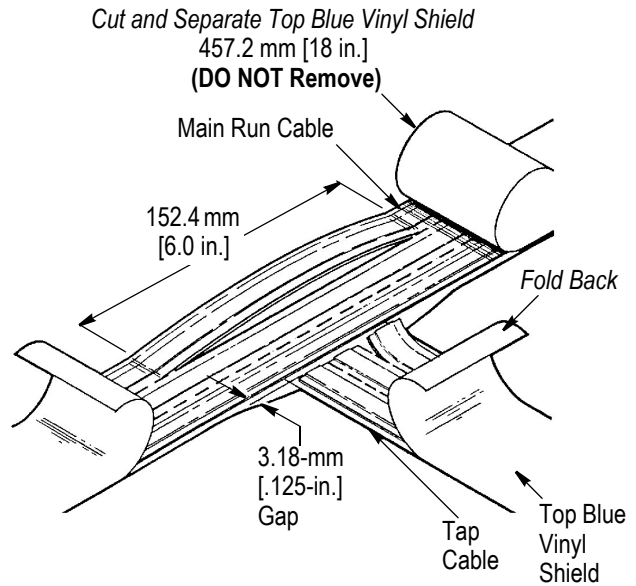

Figure 4
1. Align the tap cable perpendicular to the main run cable with a 3.18-mm [.125-in.] gap between the cables. Fold back the top blue vinyl shield of the tap cable. Cut and separate the top blue vinyl only (approximately 457.2 mm [18 in.]). See Figure 4. DO NOT cut the bottom blue vinyl shield.